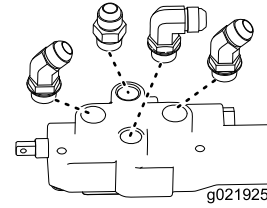

Figure 7
1. Install the fittings as shown in Figure 7.